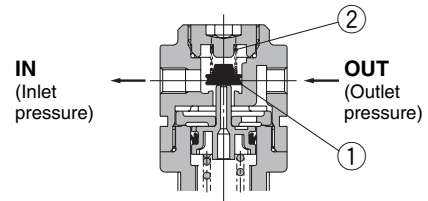

Figure 2
When the inlet pressure is higher than the regulating pressure, the check valve operates as a normal regulator (Figure 1). When the inlet pressure is shut off and exhausted, any inlet pressure applied to the valve ① will be lost. The force for seating the valve ① is the valve spring force ② only. When the valve ① is opened using the outlet force, the outlet pressure will be exhausted at the inlet side. (Figure 2)